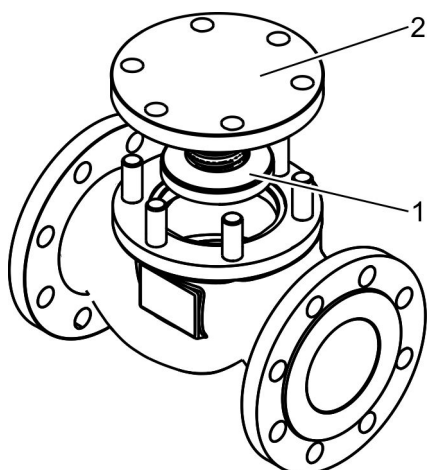

Fig. 10: Inserting the shut-off element
9. ➔ Depending on the version of the valve, carefully lift the return valve cover (Fig. 10/2) and its shut-off element (Fig. 10/1) onto the stud bolts of the body with the help of a second person.